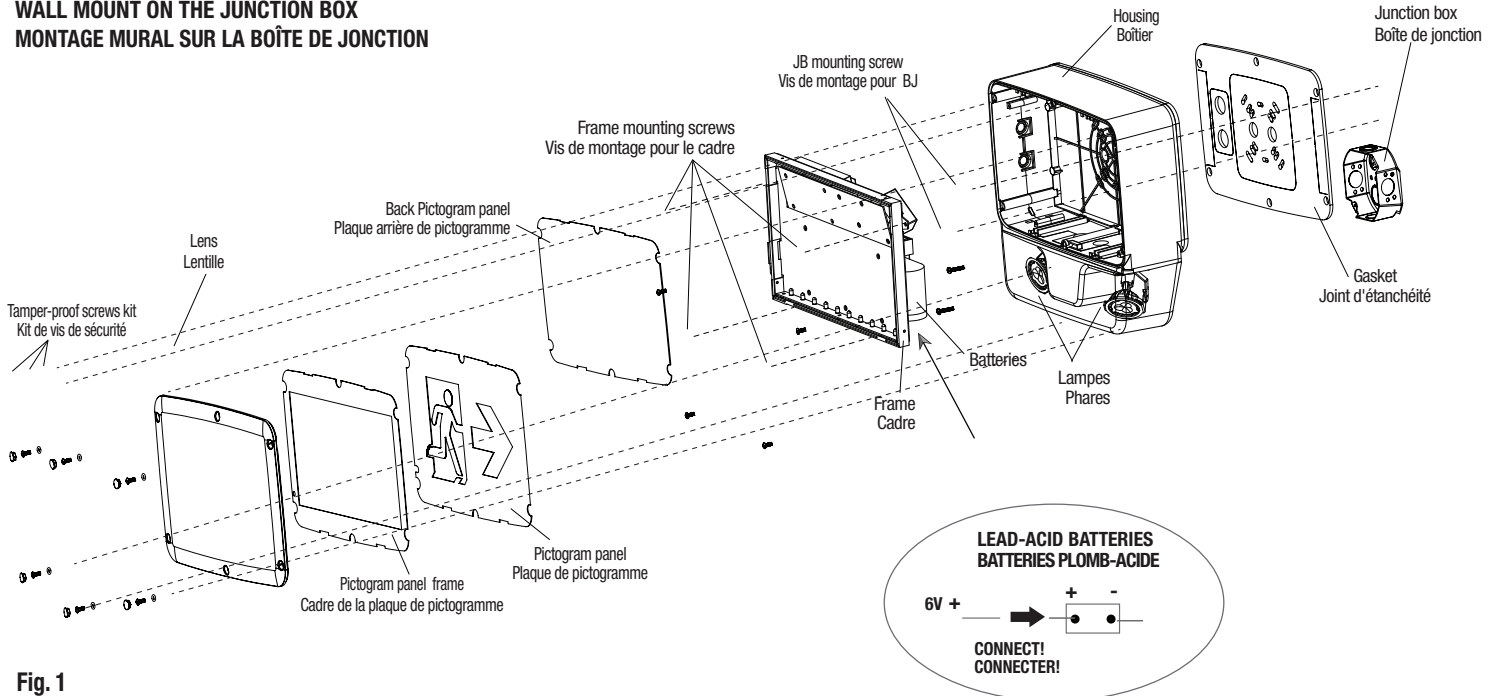
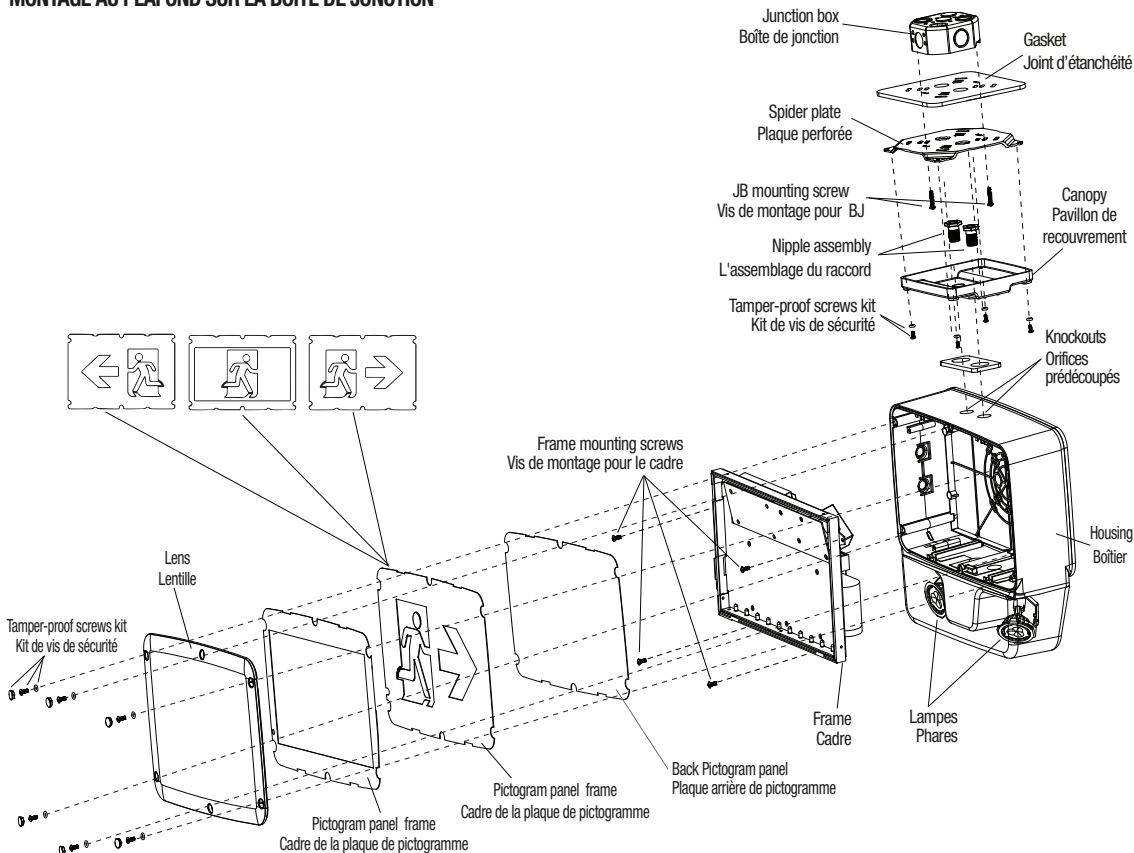
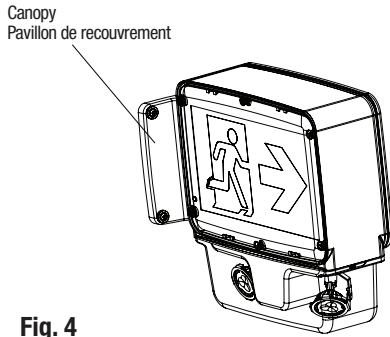
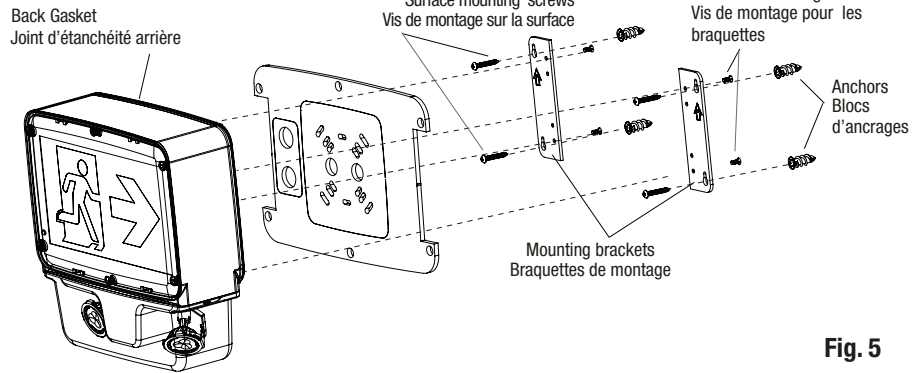

Fig. 1
Fig. 2
Fig. 4
Fig. 5
3. Remove the lens, pictogram panels assembly (three pieces) and interior housing frame (unscrew the four frame mounting screws, using a screwdriver PH2X) (Fig. 1).
4.a For wall mount installation only (Fig.1), break through appropriate knockouts into the back housing. Paste properly the gasket on the back of the unit and route the proper wire through the central hole.
4.b For Ceiling (Fig. 2) or End Mount (Fig. 4) installation only, break through appropriate knockout into the top or side of the housing. Align the gasket with the hole and paste it properly on the housing. Attach the housing with the canopy using the nipple assembly and lock nut(s). Align and paste the second gasket on the spider plate. Route the proper wire through the housing, canopy and spider plate holes.
4.c For Mounting Bracket installation (Fig. 5) only, break through appropriate central knockout into the back housing. Remove the sides parts of the gasket and paste it on the back of the unit and route the proper wire through the central hole. Mount the brackets on the back housing using the four screws provided in the hardware bag (use screwdriver PH2X). Place the housing on the required surface and use the bracket holes as a drilling template. Drill the four holes and fix the mounting anchors inside each hole.
6. For Wall (Fig.1), Ceiling (Fig.2) and End mount (Fig.4) installation only use the two screws to mount the back housing or the spider plate to the surface over the recessed junction box. Tighten the screws enough to compress the gasket to ensure a good sealed joint. (use screwdriver PH2X)
7.a For Ceiling (Fig. 2) and End mount (Fig. 4) installation only, attach the canopy with the spider plate using the four tamperproof screws and four o-rings (use the tamperproof bit CR-VT15 provided in the hardware bag). Tighten the lock nuts and the screws enough to compress the gasket to ensure a good sealed joint.
7.b For mounting bracket installation only (Fig.5), mount the fixture on the surface using the two brackets and the four mounting screws provided (use screwdriver PH3X). Tighten the screws enough to compress the gasket to ensure a good sealed joint.
- For the battery lead-Acid connect the cable between the circuit board and the not connected electrical pole ("+" red color) of the battery (see Fig. 1 detail).
3. Enlever la lentille, l'assemblage des panneaux de pictogramme (trois pièces) et le cadre intérieur du boîtier (dévissier les quatre vis de montage en utilisant le tournevis PHx2) (Fig. 1).
4.a. Pour installation murale seulement (Fig. 1), défoncer les orifices prédécoupés appropriés dans le boîtier arrière. Coller correctement le joint d'étanchéité sur le côté arrière de l'unité et passer les fils électriques par l'orifice central.
4.b. Pour l'installation au plafond (Fig. 2) ou l'extrémité (Fig. 4) seulement, défoncer l'orifice prédécoupé appropriée sur le côté supérieur ou latéral du boîtier. Aligner le joint d'étanchéité avec le trou et coller-le de façon appropriée sur le boîtier. Fixer le boîtier avec le pavillon de recouvrement en utilisant l'assemblage du raccord et les contre-écrous. Aligner et coller le deuxième joint d'étanchéité sur la plaque perforée. Passer les fils électriques par l'orifice du boîtier, du pavillon de recouvrement et de la plaque perforée.
4.c. Pour l'installation avec braquettages de montage (Fig. 5) seulement, défoncer l'orifice central prédécoupé approprié dans le boîtier arrière. Retirer les parties latérales du joint d'étanchéité et coller-le à l'arrière de l'unité et passer les fils électriques par l'orifice central. Monter les braquettages sur le boîtier arrière à l'aide des quatre vis fournies dans le sachet de pièces (Utiliser le tournevis PHx2). Placer le boîtier sur la surface requise et utiliser les trous du support comme gabarit de perçage. Percer les quatre trous et fixer les ancrages de fixation à l'intérieur de chaque trou.
6. Pour installation murale (Fig. 1), au plafond (Fig. 2) ou l'extrémité (Fig. 4) seulement, utiliser les deux vis (utiliser le tournevis PHx2) pour faire le montage du boîtier ou de la plaque perforée sur la boîte de jonction encastrée. Serrer les vis suffisamment pour comprimer le joint d'étanchéité pour assurer un joint scellé.
7.a Pour installation au plafond (Fig. 2) ou l'extrémité seulement (Fig. 4), fixer le pavillon de recouvrement ensemble avec la plaque perforée en utilisant les quatre vis de sécurité et les quatre anneaux d'étanchéité (utiliser l'embout TORX CR-VT15 fourni dans le sachet de pièces). Serrer les vis suffisamment pour comprimer le joint d'étanchéité pour assurer un joint scellé.
7.b Pour installation avec braquettages de montage (Fig. 5) seulement, fixer l'unité en place avec l'aide de deux supports et les quatre vis de montage incluses (utiliser le tournevis PHx2). Serrer les vis suffisamment pour comprimer le joint d'étanchéité pour assurer un joint scellé. (Fig. 4)